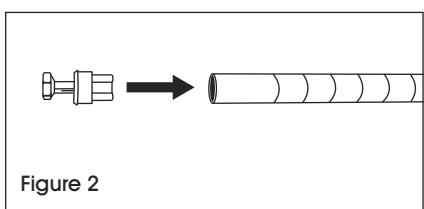

Figure 2
1. Make sure post is positioned as shown. (See Figure 2)